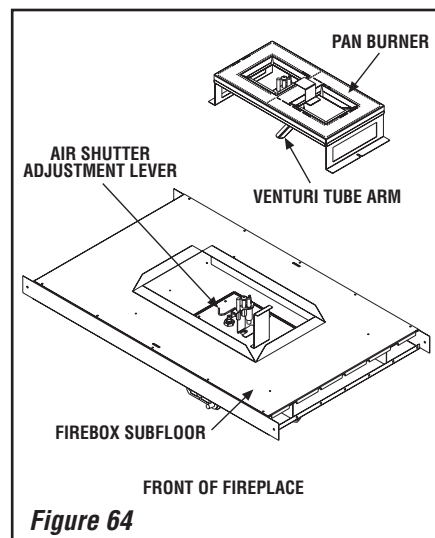

Figure 64
Step 3. Referring to **Figure 64**, remove the burner.
Step 5. (Refer to *Figure 64, page 42*)
Ensure that the arm of the venturi of the burner is hooked onto the air shutter adjustment lever (refer to *Figure 64 on Page 42*). The primary air opening can be adjusted by rotating the adjustment lever from beneath the firebox floor. Refer to *Figure 62 on Page 38* for the recommended minimum primary air opening setting.